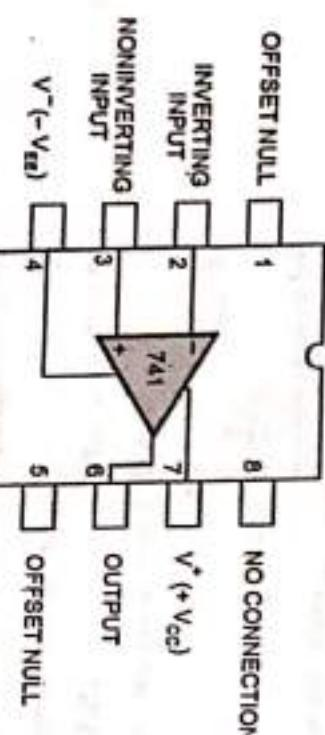

Fig. Q41.1 Pin diagram of IC 741 op-amp
• The pin diagram of IC 741 op-amp is shown in the Fig. Q41.1.